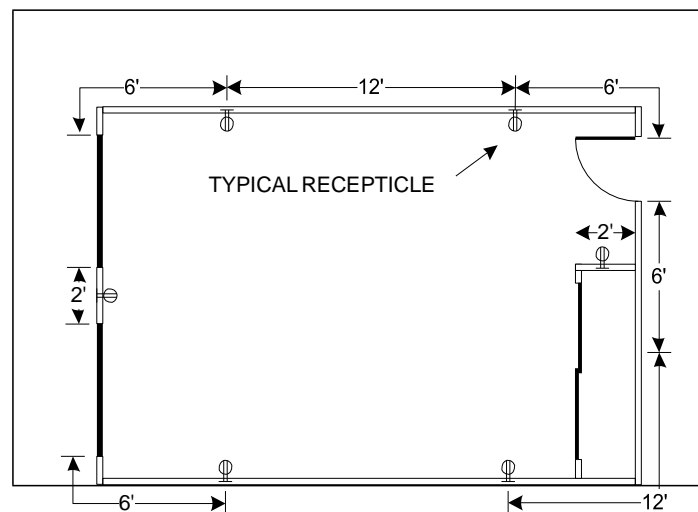

FIGURE 15: Typical Outlet Distribution
- Receptacles shall be placed so that no location along the floor/wall line is more than 6'-0" from a receptacle. FIGURE 15